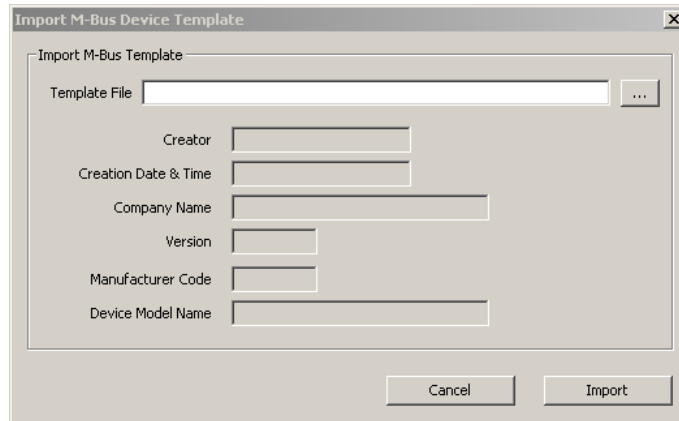

Figure 215: Import M-Bus Device Template dialog.
2. This opens the **Import M-Bus Device Template** dialog shown in Figure 215.